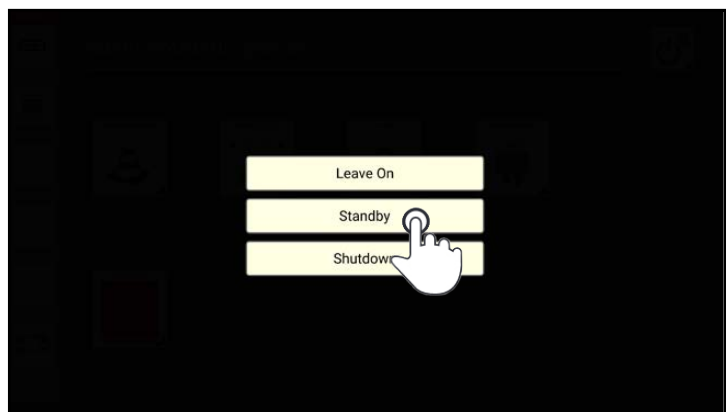

Fig. 96: Activating standby mode
3. Tap "Standby" (see Fig. 96).